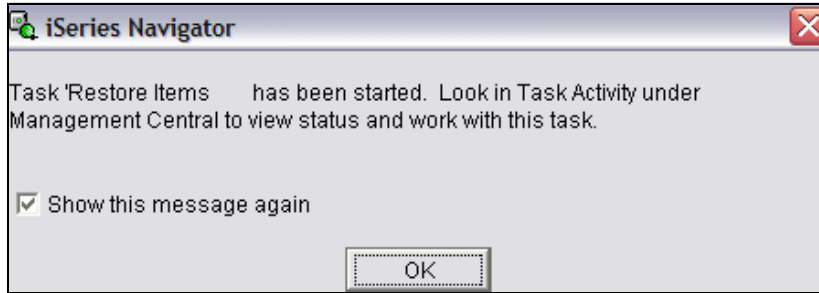

Figure 7-75 BRMS restore, execute
11. This launches the restore, as shown in Figure 7-75 on page 402. Click **OK**.